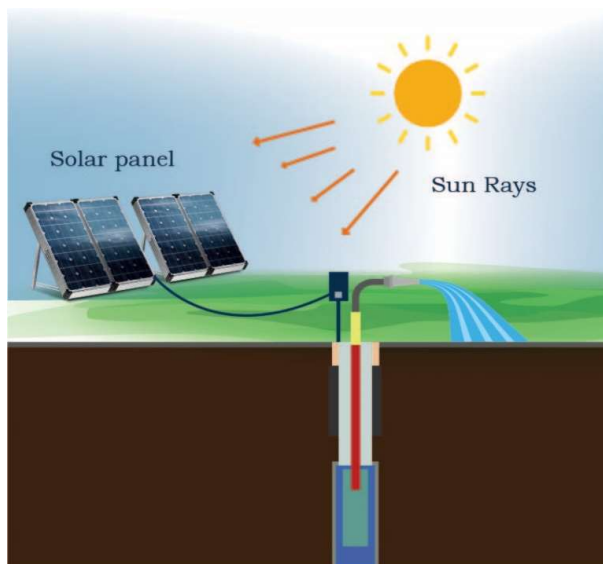

Fig. 1.14: Solar Water Pumping
A solar water pumping system is essentially a pumping system, powered by the electricity produced by Solar Photovoltaic (PV) panels (or Modules). A solar water pumping system consists of a solar panel array that powers an electric motor, which in turn powers a submersible/ surface pump. Solar water pumping systems are beneficial in the agricultural and industrial sectors. Fig. 1.14 illustrates the typical solar water pumping system.